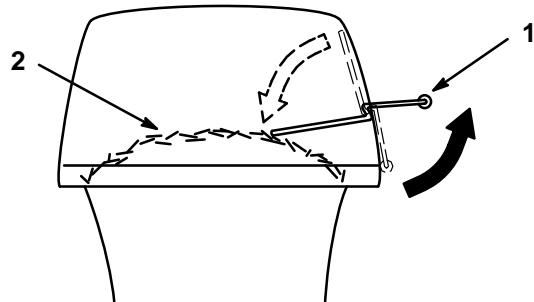

Figure 39
2. To check if both bags are full, periodically raise the full bag tester handle (Fig. 39). If you feel resistance as you raise the handle, the bags must be emptied because they are full (Fig. 39).